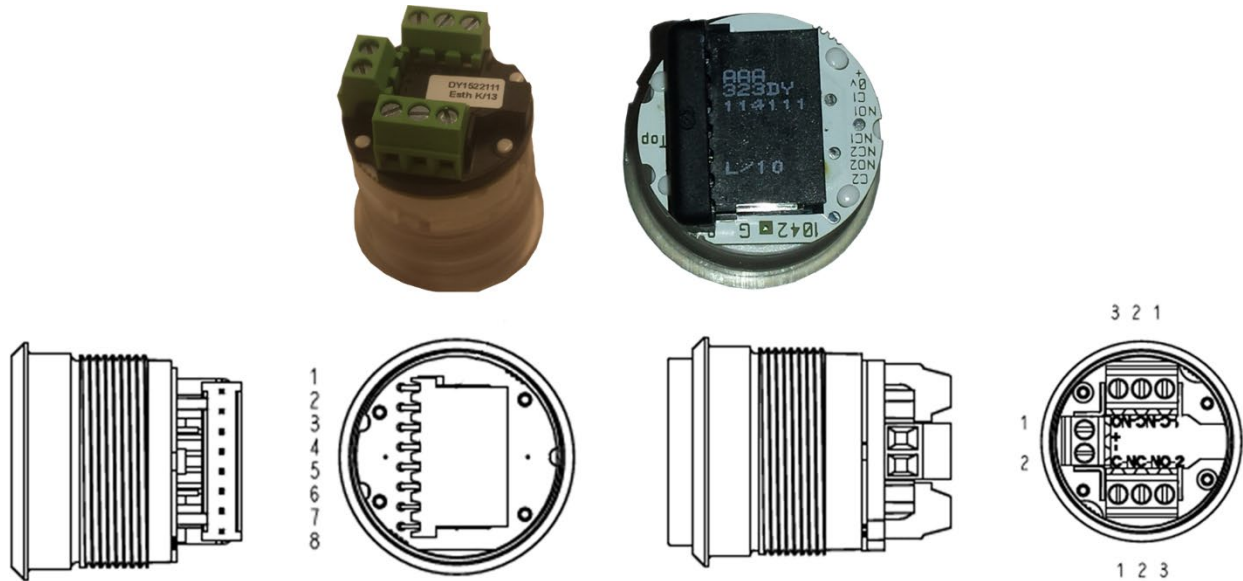

Figure 1
- Pushbuttons used with AMP connector (Figure1)